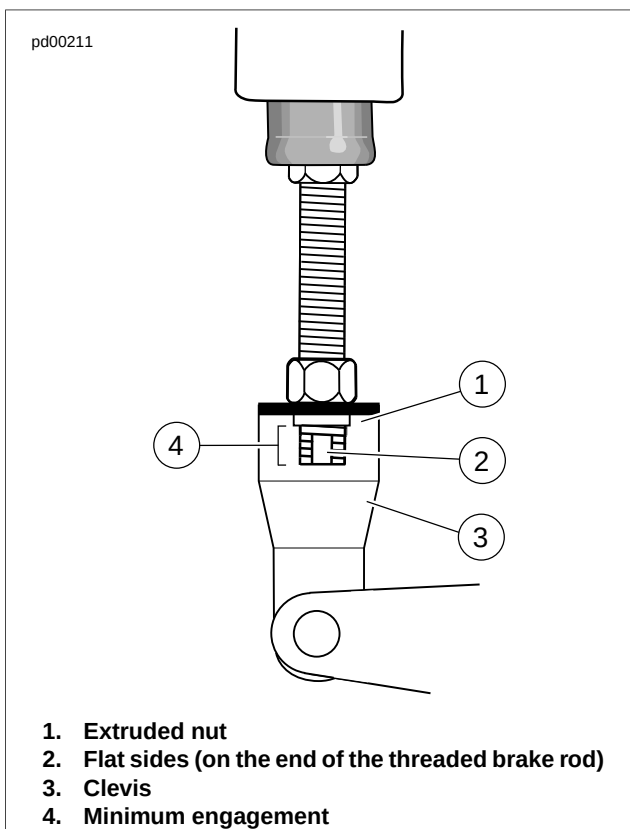

Figure 1-13. Critical Measurements with Brake Pedal
- See Figure 1-13. On the very end of the threaded brake rod, are two flat sides (2). To ensure proper thread